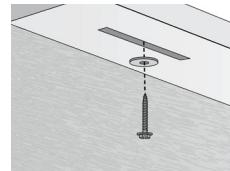

Figure 3: Through Head Rail
2. Holding the shade in its installation position, use the installation screws and washers provided to screw through slots* in the head rail directly into the mounting surface to hold the shade in place. **[Figure 3]**.